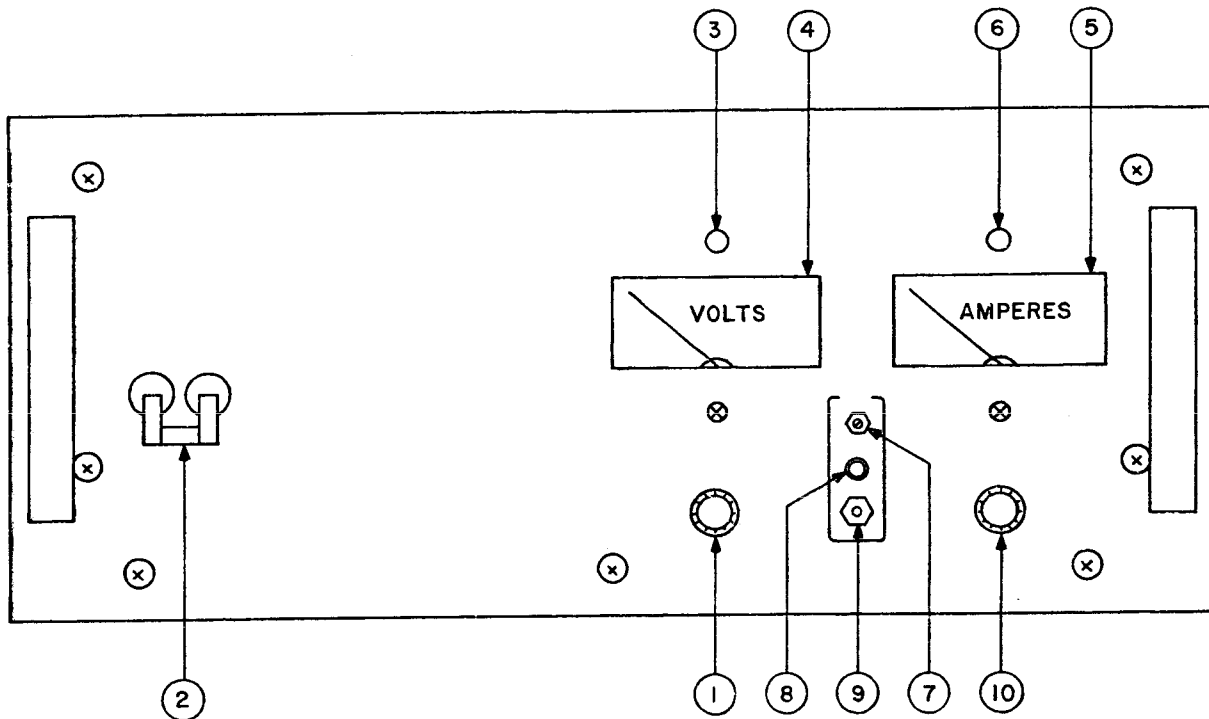
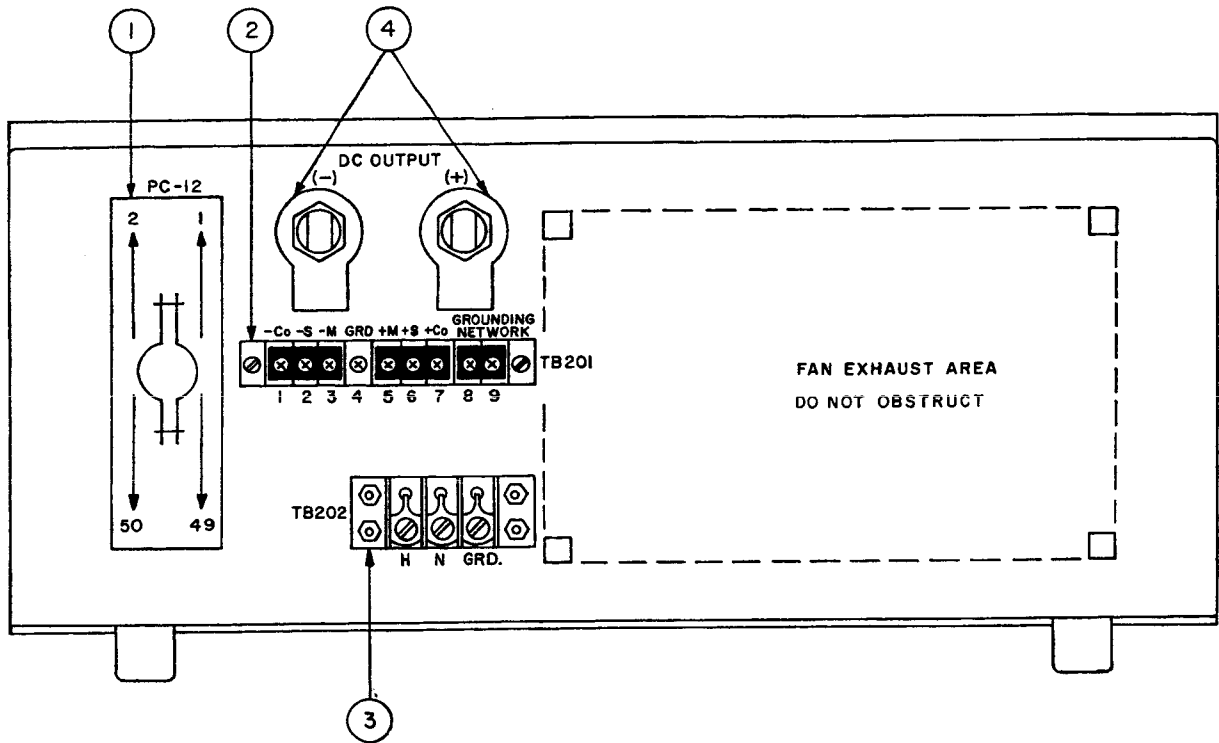

FIG. 2-2 CONTROLS AND TERMINATIONS, ATE FULL RACK GROUP, FRONT.
FIG. 2-3 TERMINATIONS, ATE FULL RACK GROUP, REAR.
- a) FRONT PANEL: Refer to FIG. 2-2 and Table 2-2.
- b) REAR: Refer to FIG. 2-3 and Table 2-3.
2-9 A simple operating check after unpacking and before permanent installation is advisable to ascertain whether the power supply has suffered damage resulting from shipment. Refer to FIG. 2-2 and to FIG. 2-3 for the location of the operating controls and output terminals.
**A resistor/capacitor network is connected from the negative monitor terminal to the metal chassis of the power supply. If this internal network is *not* desired, the connection to the chassis can be opened by removing the link (8)-(9) on TB201 (See FIG. 2-3).**